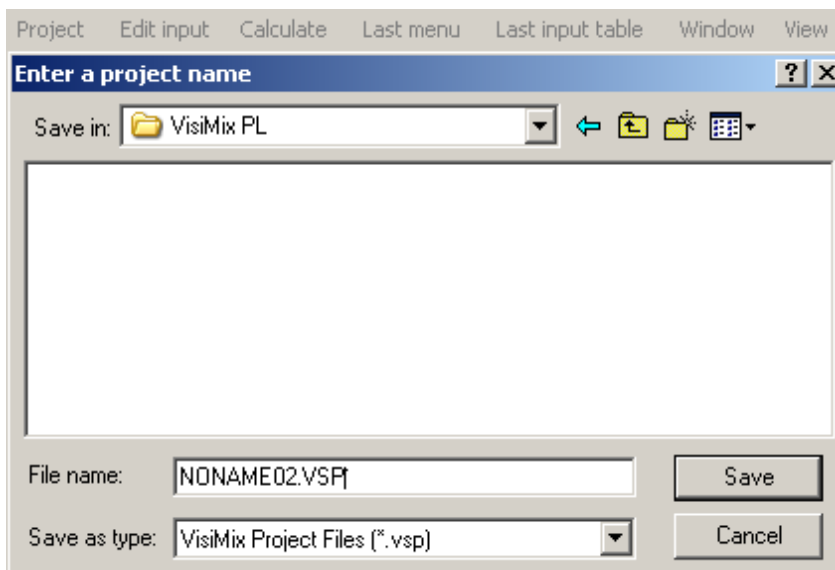

Figure 3.
2. When the new project dialogue appears (Figure 3), enter a project name in the name field, then click **OK**.